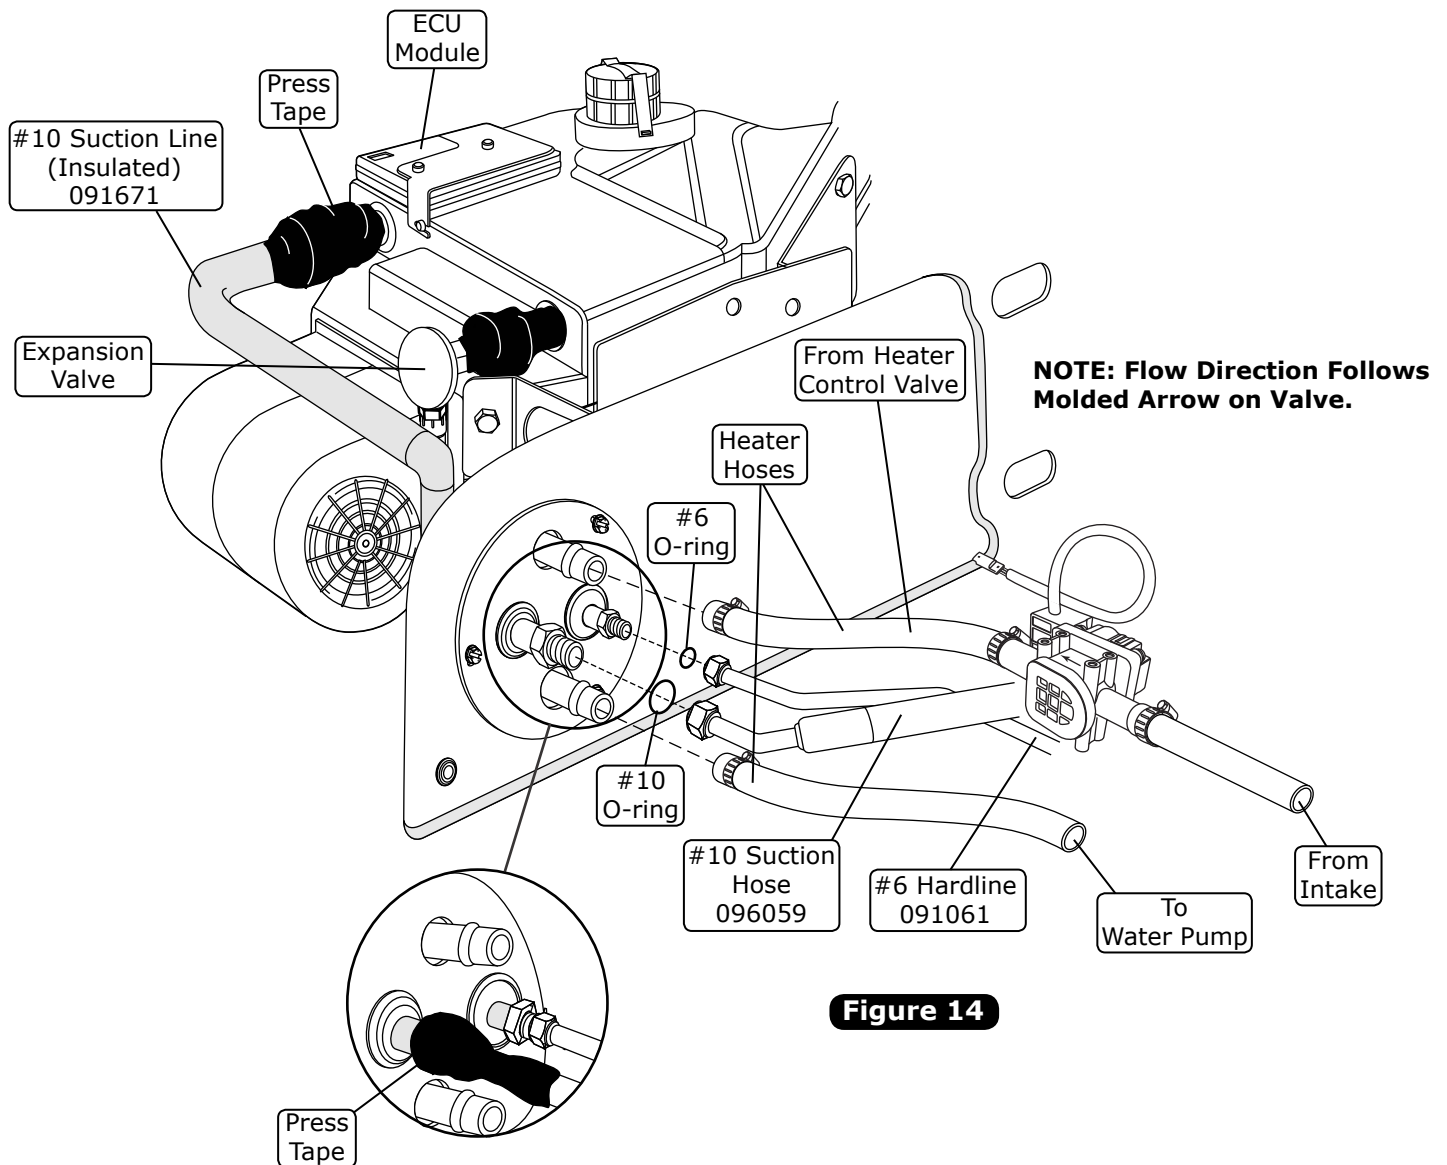

Figure 14
2. Locate the #10 compressor A/C hose. Lubricate (2) #10 O-rings (See Figure 13, above) and connect the #10 135° female fitting with 134a service port to the #10 suction port on the compressor. Then route the 45° female fitting to the #10 evaporator hardline coming through the firewall (See Figure 15, Page 16). Tighten each fitting connection as shown in Figure 13, above. **NOTE: Wrap the #10 fitting connections with press tape (See Figure 14, Page 15).**
1. Route a piece of heater hose from the water pump to the lower heater core fitting (See Figure 14, below, & Figure 15, Page 16). Secure using hose clamps.
2. Route a piece of heater hose from the intake to the heater control valve, and from the heater control valve to the upper heater core fitting (See Figure 14, below, & Figure 15, Page 16). **NOTE: Install the heater control valve in line with the intake manifold (pressure side) heater hose, and secure using hose clamps. Also note proper flow direction.**